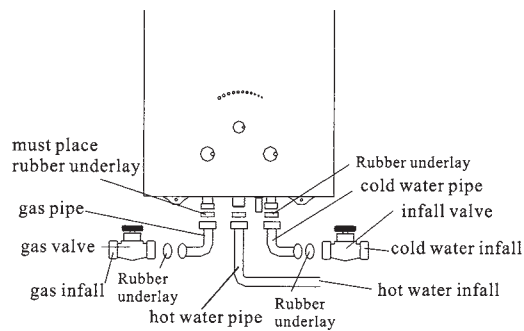

Fig.4
2. Installation of water and gas pipeline (Fig.4)
● Installation of infall pipe (Fig.4)
For the infall pipe, apply stainless steel wave pipe or pressure-endurable hose or rigid water pipe. The water supply control valve is necessary to be fixed before the cold water pipe. (Fig. 4)
● Installation of outfall (Fig.4)